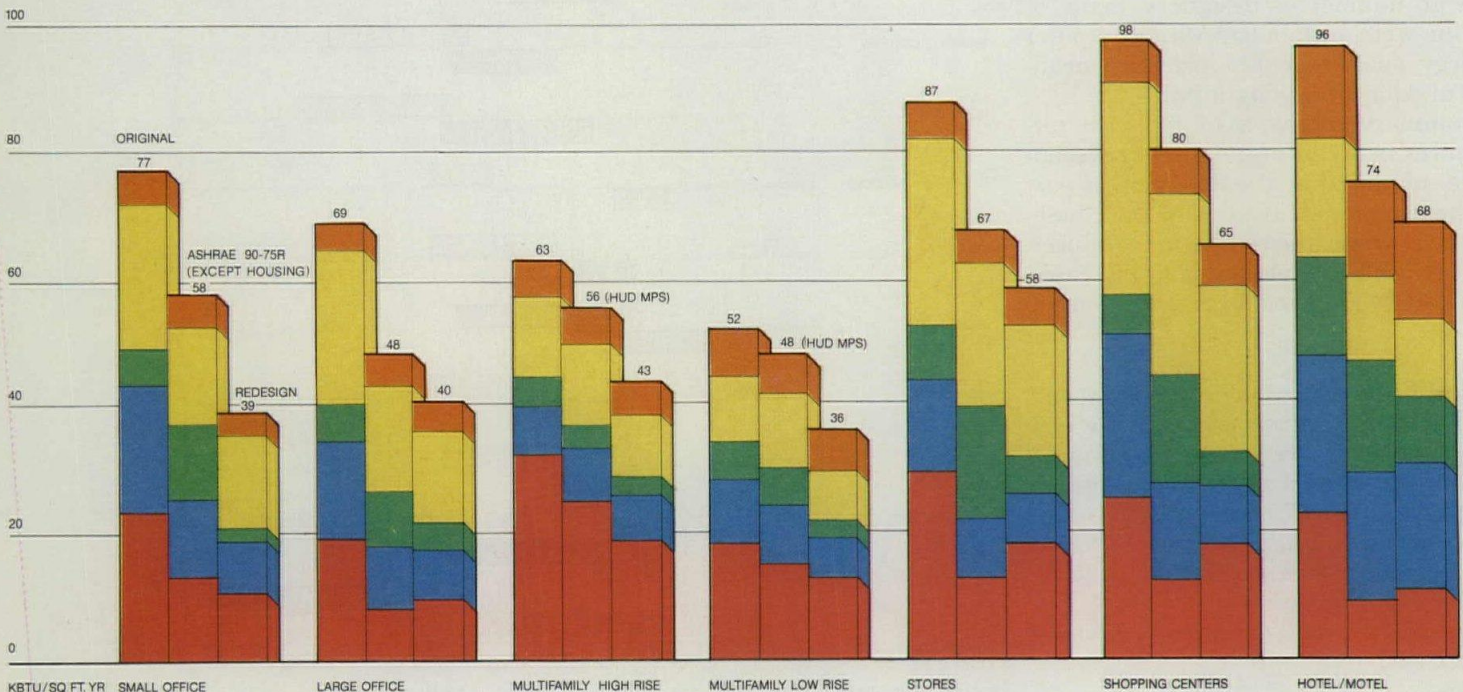

FIGURE 3 AVERAGE END USES FOR TYPICAL BUILDING TYPES
The redesign experiment produced significant reductions in projected energy use. The average unweighted reduction for all redesigned buildings was 38 percent. Figure 3 shows the average results of the redesign process for the sample buildings in each building type.
Application of the component requirements of ASHRAE 90-75R to the original buildings also produced significant energy reductions. Exact conformance to the ASHRAE 90-75R minimum component requirements using the formal “Upgrade/Downgrade” approach resulted in a 22 percent reduction from the original buildings. Results of this approach are shown for 12 building types in Figure 3. The middle bars for multifamily high-rise and low-rise residences show the impacts of HUD MPS. The second “Upgrade Only” approach resulted in a 34 percent reduction from the original buildings.
**Figure 3** This figure shows the average energy use for each building type for three conditions: the original design, the ASHRAE Standard 90-75, and the redesign. Total annual energy and end uses are expressed in thousands of Btus/sqft/yr for heating, cooling, fans, lighting, and other end uses, including service water, heating, elevators, escalators, and exhaust fans.